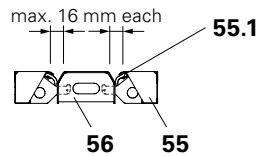

Fig. B10.09
- 2x Outside Pieces AT 3 (55) for approx. 2.5 cm concrete cover or 2x Outside Pieces AT 5 for approx. 5 cm concrete cover
- 1x Centre Piece MT (56) (Fig. B10.09)